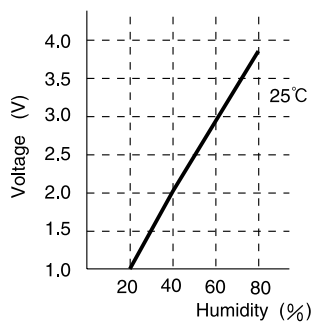

Fig. 5-2
- From the output (② pin) of humidity sensor, the 5V pulse of different width is output according to detected humidity. Smooth output pulse is carried out by C301 and it changes into the characteristic of voltage-humidity as shown in Fig.5-2. The micro computer detects and controls humidity by reading this voltage directly.